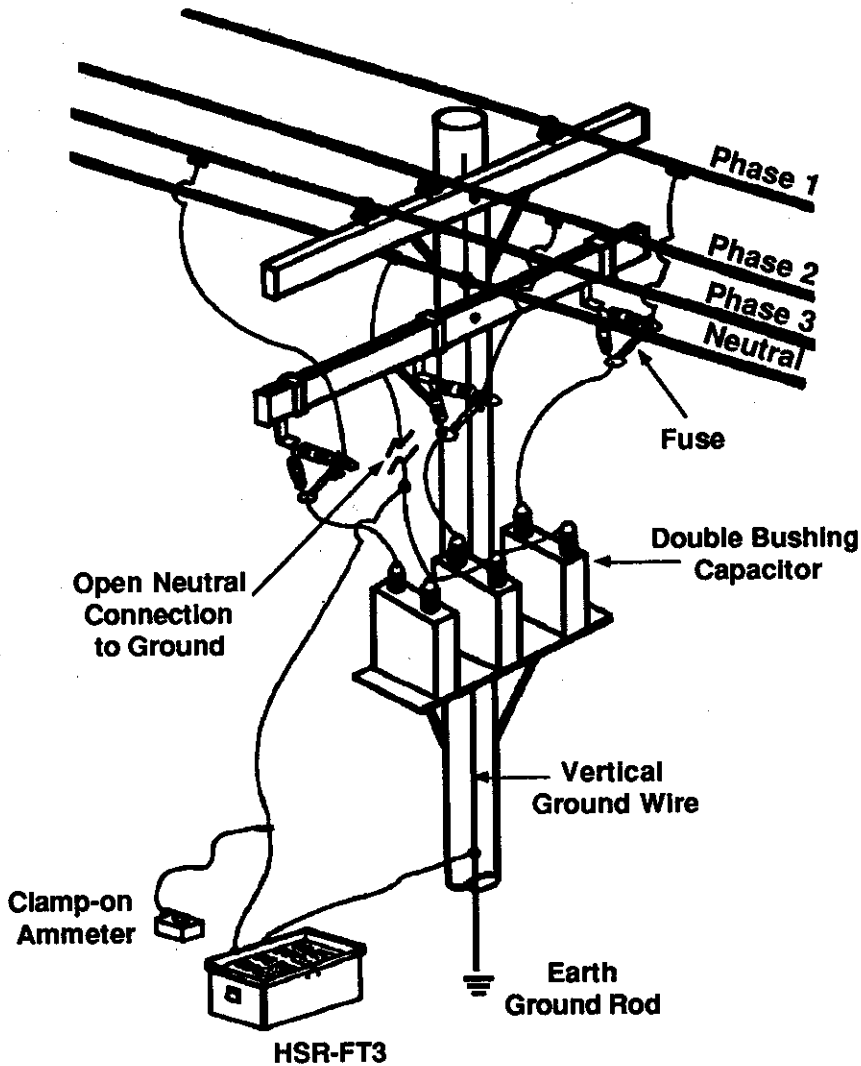

Figure 5: HSR-FT3 Test Connections
3.04 If removing a capacitor bank(s) reduces the PI, an HSR field test should be conducted. SNC's HSR-FT-3 Field Test Reactor is designed to be temporarily placed in the ground circuit path of the capacitor bank (between the capacitor bank and the vertical ground wire). (See Figure 5)